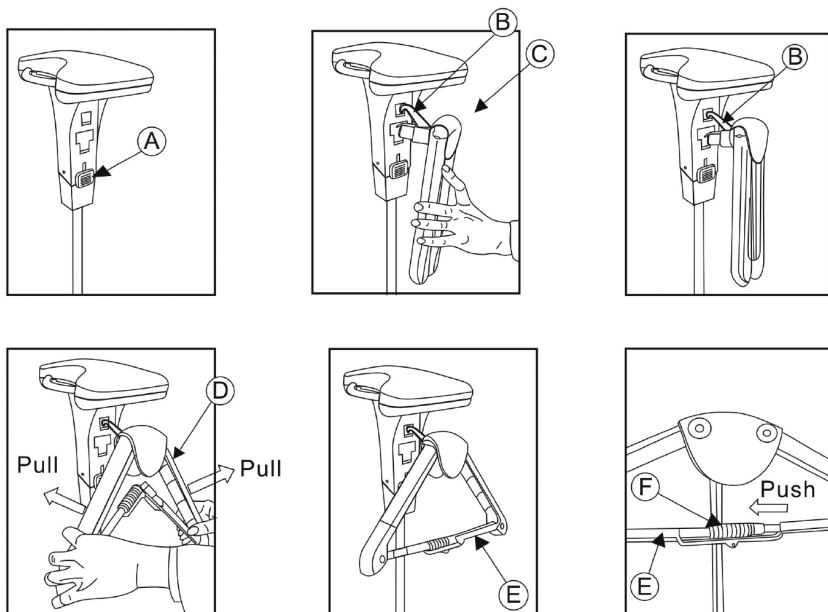

fig. 6
4. Slant the hook(B) of folding rack and then insert it into the hole of rotatable hanger head.
5. Press the hook (B) vertically and tighten it.
6. Pull the arm of folding rack flatly until the two poles (E) are aligned.
7. Push the fixed pipe (F) on the pole to the left and align the marked dot on the pole and the hole on the fixed pipe (F). See fig 6